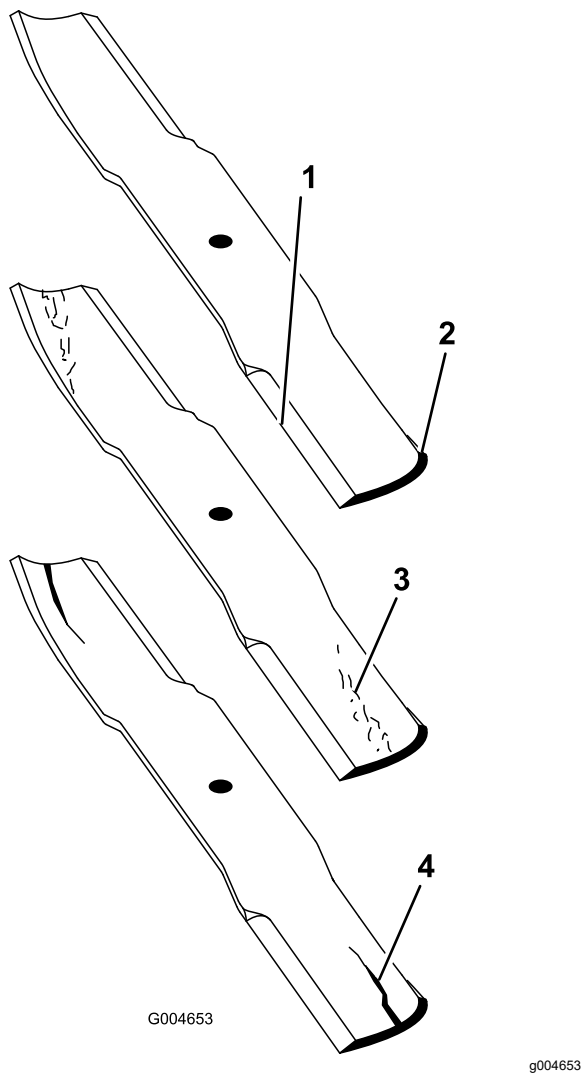

Figure 98
- Examine the cutting ends of the blade carefully, especially where the flat and curved parts of the blade meet (Figure 98).
Note: Because sand and abrasive material can wear away the metal that connects the flat and curved parts of the blade, check the blade before using the mower. If wear is noticed (Figure 98), replace the blade.